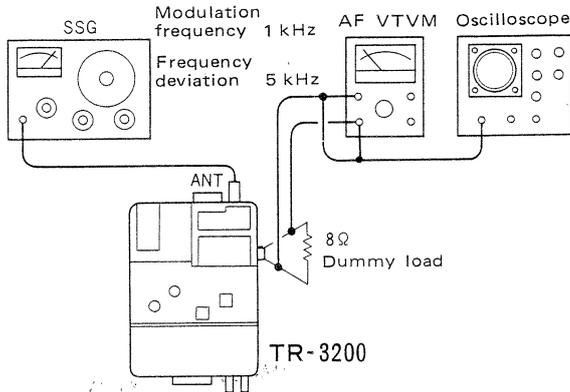

Fig. 9 Sensitivity Adjustment
1. Connect the SSG, AF VTVM and the oscilloscope to TR-3200 as shown in Fig. 9.